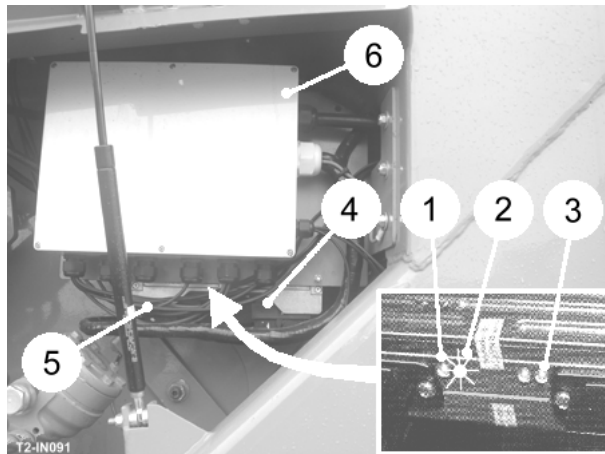

Fig 51
Check that there are 3 green LED's (item 1,2 & 3 fig 51) illuminated under the harvester module (one LED flashing).
The KS1 and KS2 plugs (item 4 & 5, fig 51) are removed as follows (KS2 plug shown).
The main distribution box (item 6, fig 51) contains the following fuses: